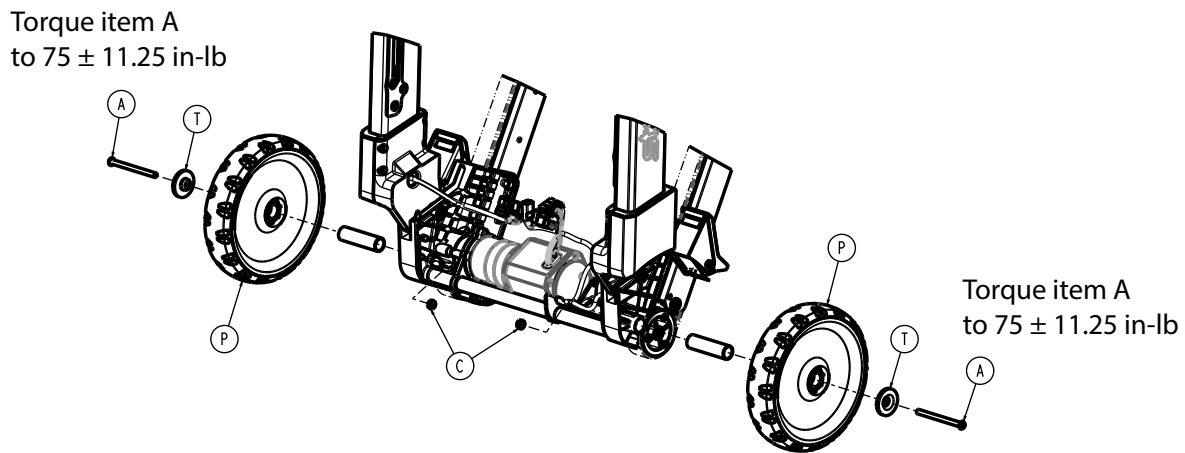

Figure 17 –
4. Using a ratchet and a 5/32" hex wrench, remove the button head cap screw (A) and back wheel cap (T) that secure the back wheel assembly (P) to the chair frame (Figure 17). Save the screw and cap.
- Use one hand to hold the lock nut (C) in the upright assembly (Figure 17). Discard the nut if you replace the wheel assembly. Install the supplied lock nut when you reinstall.
- Using a torque wrench and a 5/32" hex wrench, torque the button head cap screw (A) to 75 ± 11.25 in-lb when you reinstall.